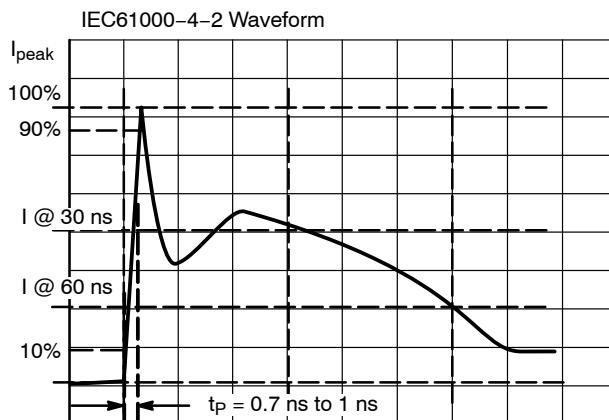

Figure 5. IEC61000-4-2 Spec
1. For test procedure see Figures 5 and 6 and application note AND8307/D.